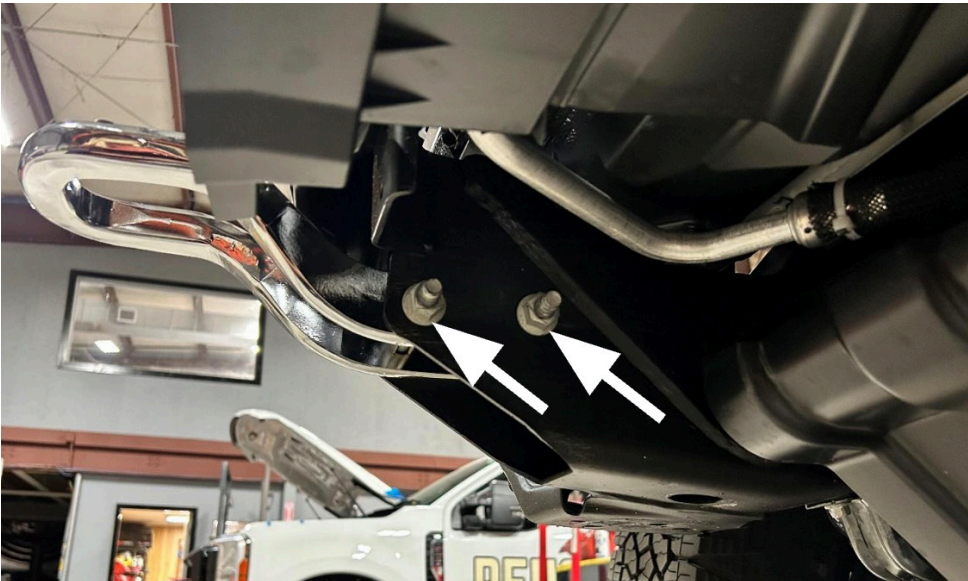

Figure 16
14. Using an 18mm socket and combination wrench, remove the two (2) bolts per tow-hook to remove them from the vehicle. Figure 16